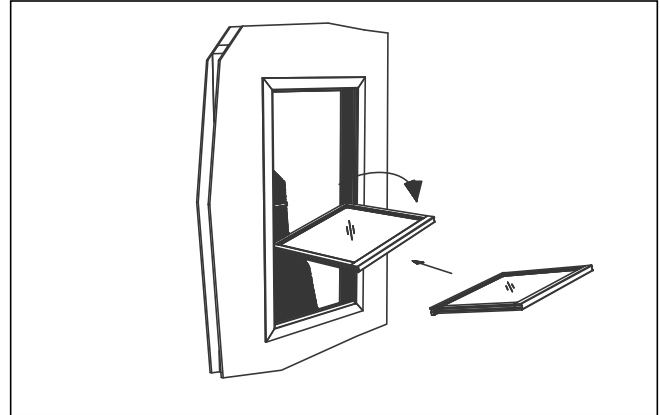

Figure 9
- Install the top sash first. Keep left side of sash slightly lower than right side, insert left metal cam pivot into vinyl jamb line track nearest the exterior side of building. Be sure pivot is positioned above the locking terminal assembly. See figure 9.